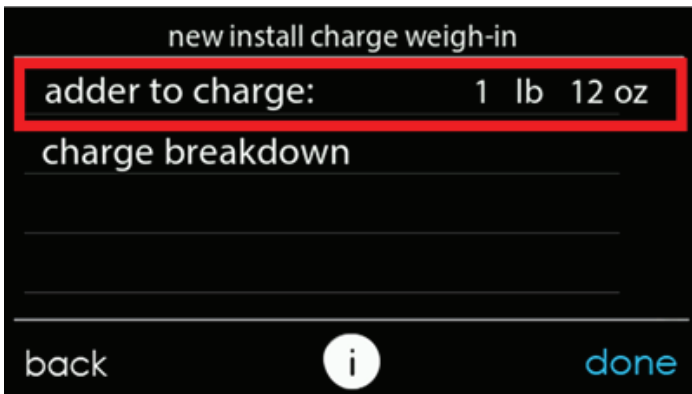

Fig. 20 – Additional Required Charge for New Installation A200038
13. The "new install charge weigh-in" screen will show the additional charge that needs to be added to the system to account for the ID coil and line set (see Fig. 20).